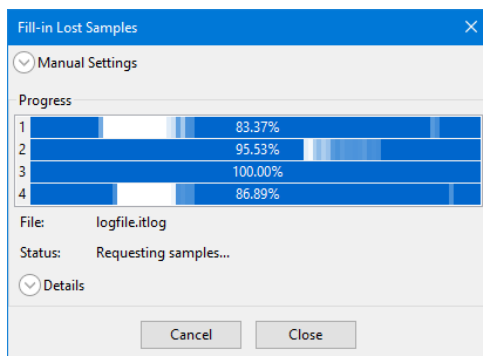

Figure 21: Requesting
Enable *Fill-in Lost Samples* when creating a logfile (see Section 4.3). Once logging is stopped, a pop-up is shown informing that missing data will be filled in. Once continued, the *Fill-in Lost Samples* window is shown (Figure 21) and missing data is automatically filled in.
2. During the second stage, the missing data is requested wirelessly from the nodes (Figure 21). The progress bars are actively being updated to reflect the received data. The lighter segments change to dark-blue.